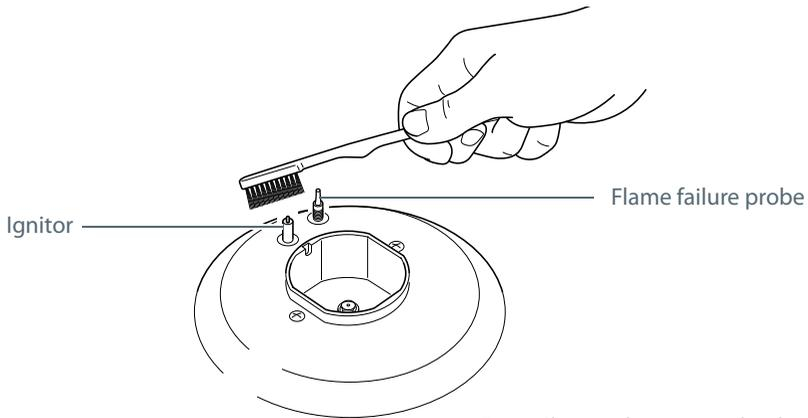

Fig. 28 Cleaning the ignitor and probe
- The ignitors are sparking. If the ignitors are not sparking, they may be dirty or wet. Clean them with a toothbrush and methylated spirits, as shown in Fig. 28.
Note: both the ignitor and probe must be very carefully cleaned using a toothbrush and methylated spirits (see Fig. 28).